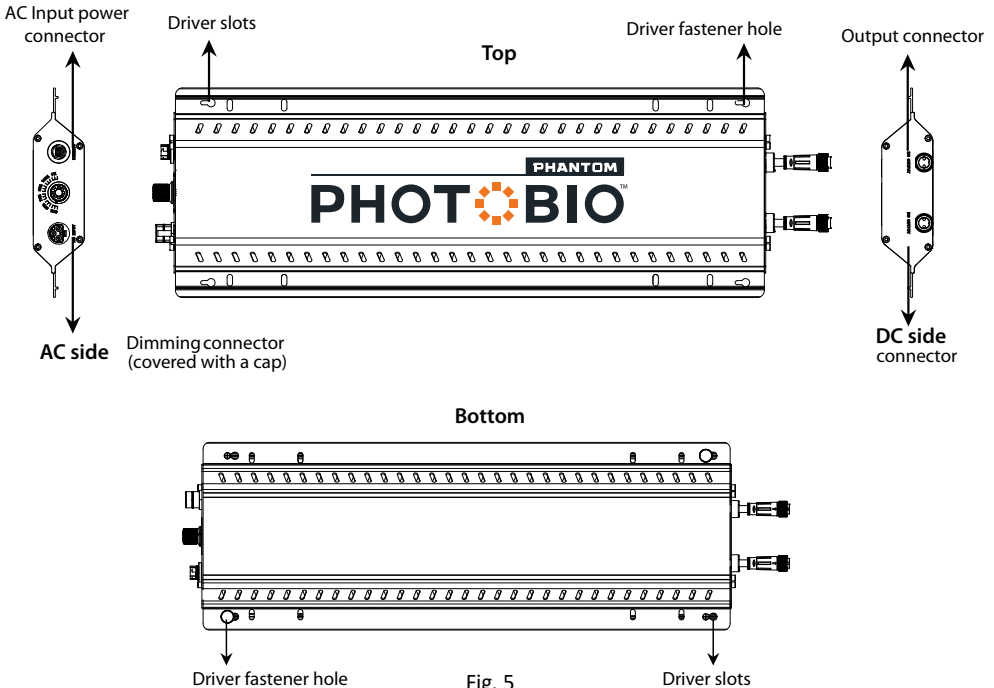

Fig. 5
Step 2. Identify driver connection carefully, as Fig. 5.